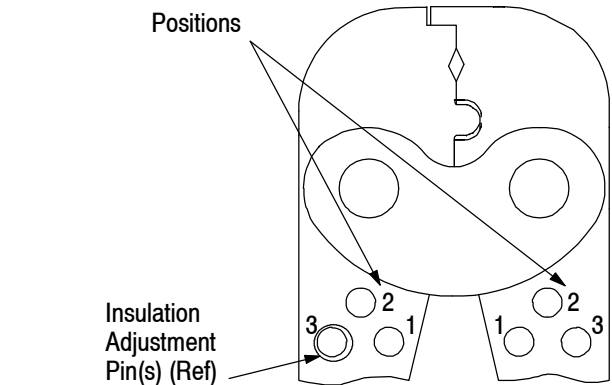

Figure 6
Always place both adjustment pins in the same position. See Figure 6.
1. Insert insulation adjustment pins in Position 3. See Figure 6.